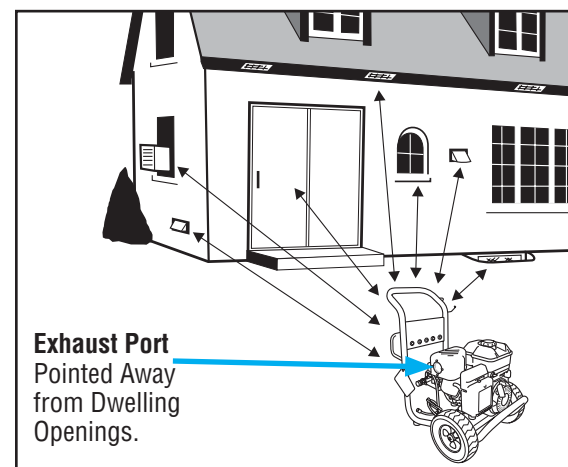

FIGURE 4
1. Move pressure washer outdoors to a flat level surface. Keep at least 5 ft. (1.5 m) clearance on all sides of pressure washer, including overhead, to reduce the risk of exhaust heat or exhaust gases igniting nearby combustible material. (See Figure 4)